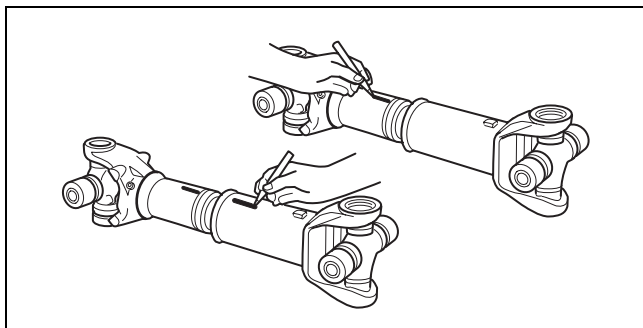

Figure 8.14
1. Mark the slip yoke and slip shaft sections to ensure that you reassemble them into their original positions. Figure 8.14.